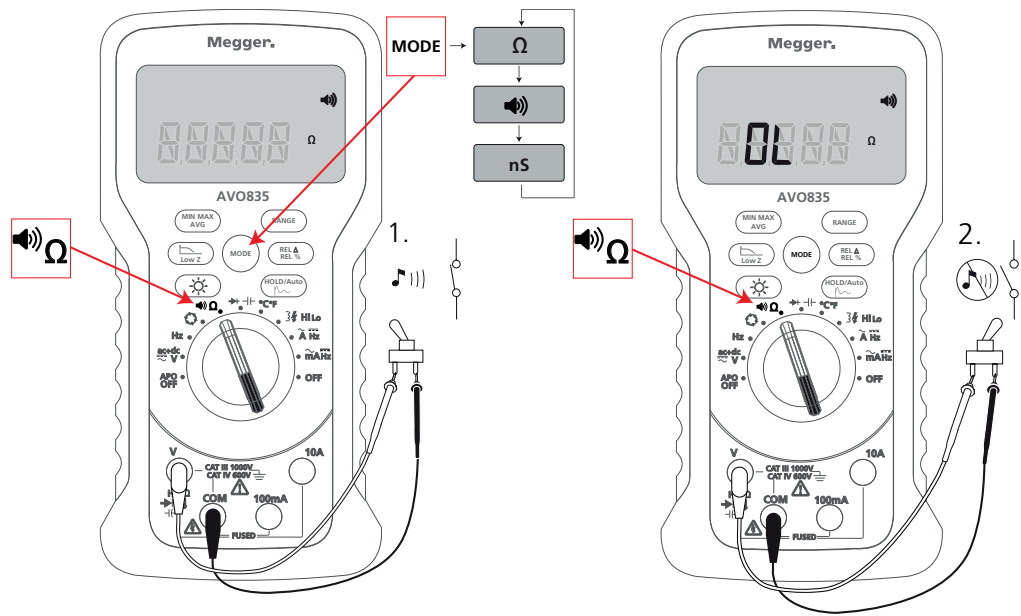

Fig 4: Continuity Test Set-up
- 2. Set-up the instrument as shown in Fig 4.